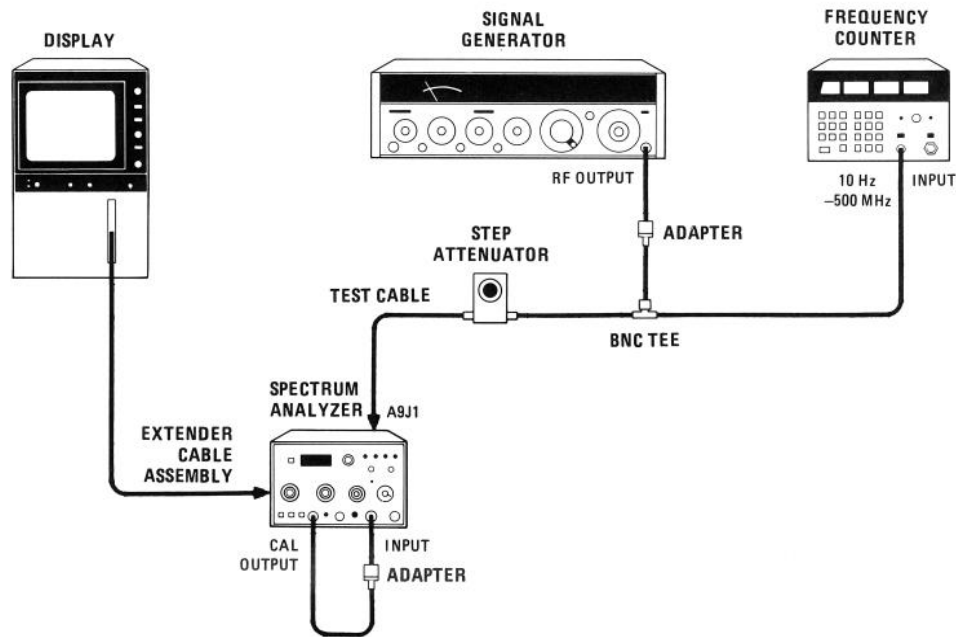

FIGURE 5-9. 3-dB BANDWIDTH ADJUSTMENT TEST SETUP
2. Connect equipment as shown in Figure 5-9 except for signal input to A9J1. Connect CAL OUTPUT to spectrum analyzer INPUT 50Ω.
9. Connect signal generator through the BNC Tee connector to the step attenuator and to the frequency counter as shown in Figure 5-9. Set the signal generator to approximately 0 dBm and the step attenuator to 30 dB. Set COUNTER MODE to EXPAND X100.